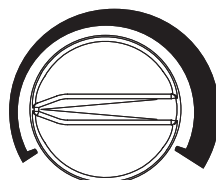

FIG. 3
- Grinding Mode: Suitable for metal grinding applications. The shading function is turned off. The lens provides a fixed DIN 3.5 level for clear visibility during grinding and facial protection (see FIG. 3).